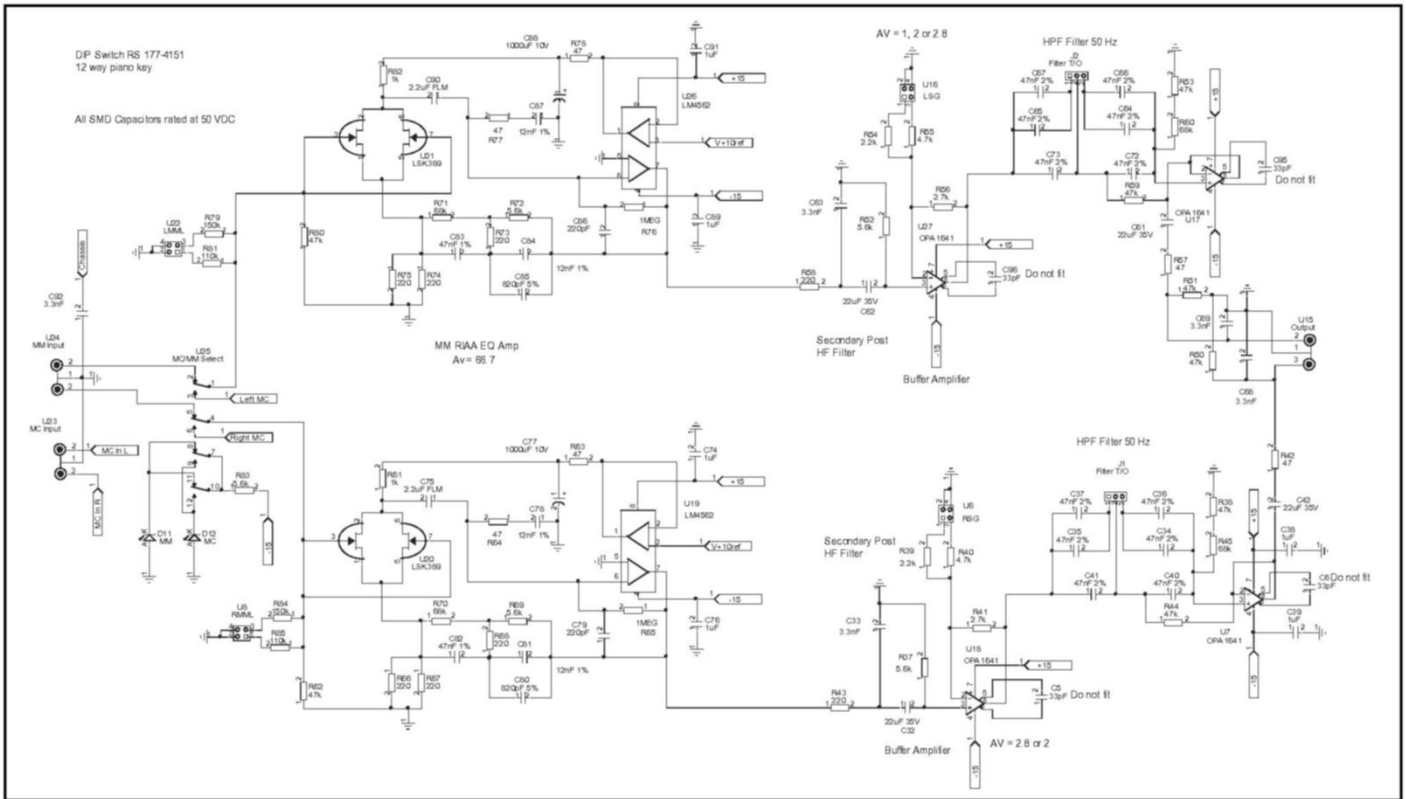

Figure 1: This schematic shows the design for the moving magnet phono amp, system gain amp, and the rumble filters.
Figure 1: This exploded view shows the construction of a 16-position BCD rotary switch. The ball bearings click into fixed positions in the slots inside the tube at bottom left. (Source: Grayhill, Inc.)
For the second half of this article, we will begin with the Moving Magnet (MM) EQ amplifier design (**Figure 1**). The junction field effect transistor (JFET) plus op-amp topology used in the X-Altra MM preamp stage borrows heavily from Denis Colin's excellent LP797 design published in *audioXpress* in 2007 but in this implementation, all active EQ is applied around the first stage rather than Colin's active/passive split EQ architecture.